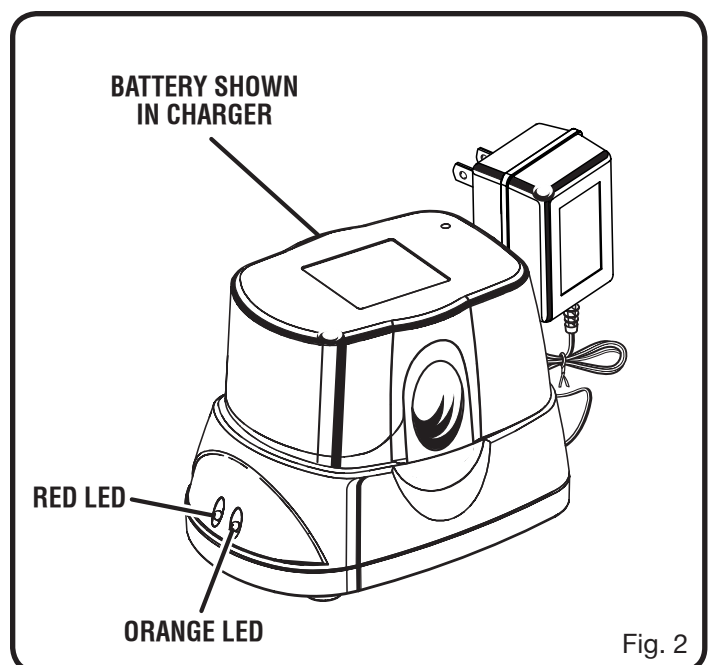

Fig. 2
- Place battery pack in charging stand. Align raised rib on battery pack with groove in charging stand. See *Figure 2*.